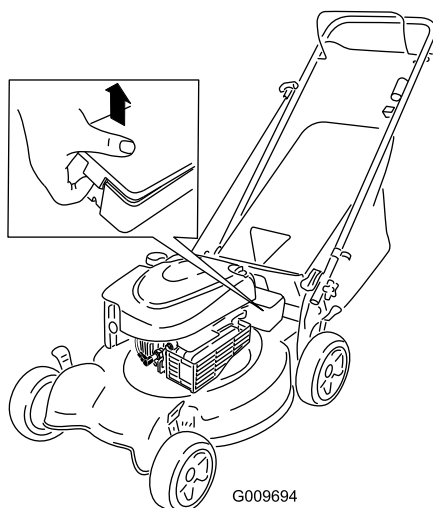

Figure 21
1. Unclip both ends of the battery cover and remove it (Figure 21).